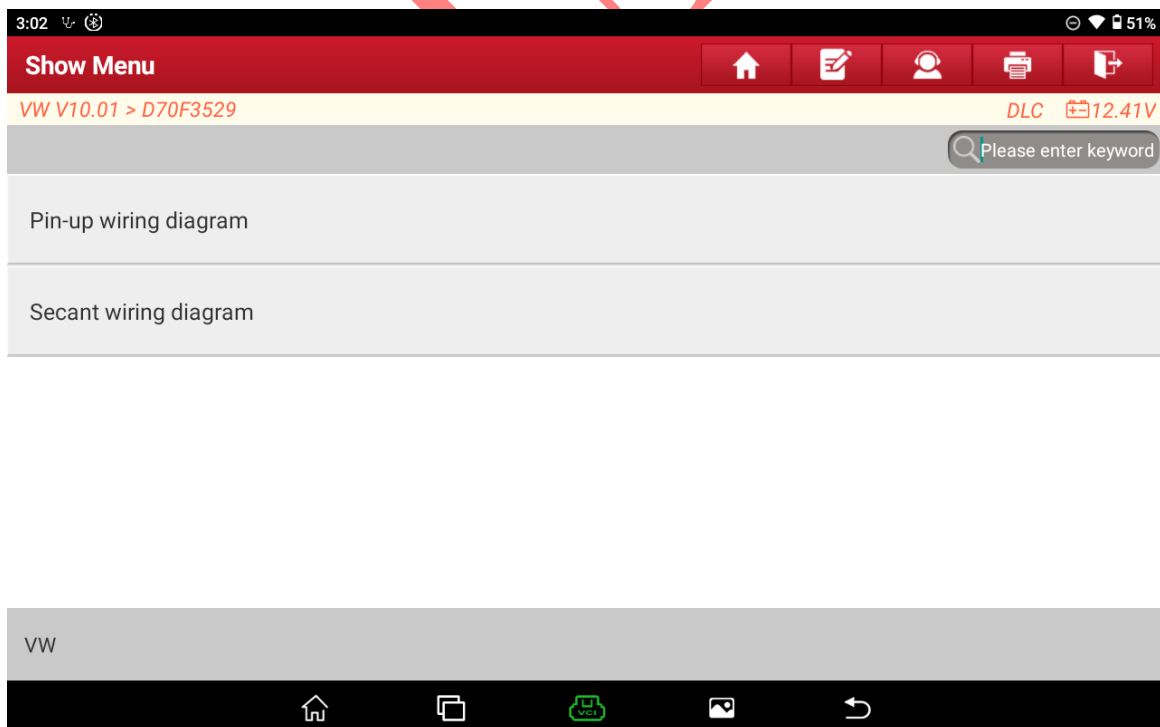

Figure 9
9. Choose [Pin-up wiring diagram], as shown in Figure 9.